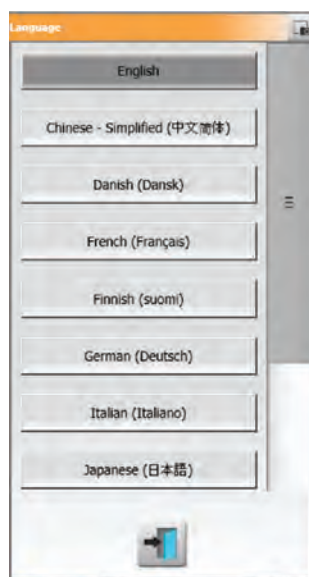

Figure 4-6 Language Selection Dialog Box
2. Touch the Language field and a window shows with a list of languages. Refer to Figure 4-6.